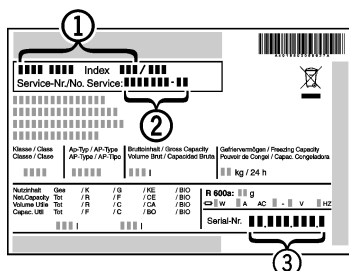

Fig. 7
- ▶ Read the appliance designation Fig. 7 (1), service No. Fig. 7 (2) and serial No. Fig. 7 (3) off the type plate located inside the appliance on the left-hand side.
- ▶ Notify the customer service, specifying the fault, appliance designation Fig. 7 (1), service No. Fig. 7 (2) and serial No. Fig. 7 (3).